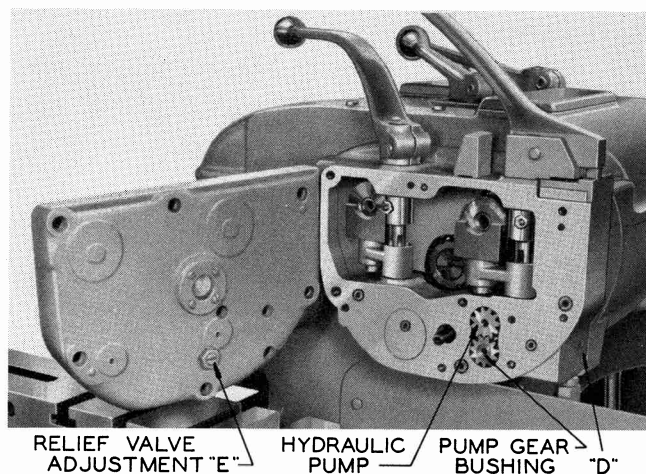

FIG. 5
3. The headstock hydraulic system provides oil to operate the spindle brake and to spray lubricate all moving parts in the headstock. The hydraulic pump is located in the clutch lever bracket directly in back of the spindle and supplies 50 to 60 lbs pressure to operate the spindle brake (Figure 5).